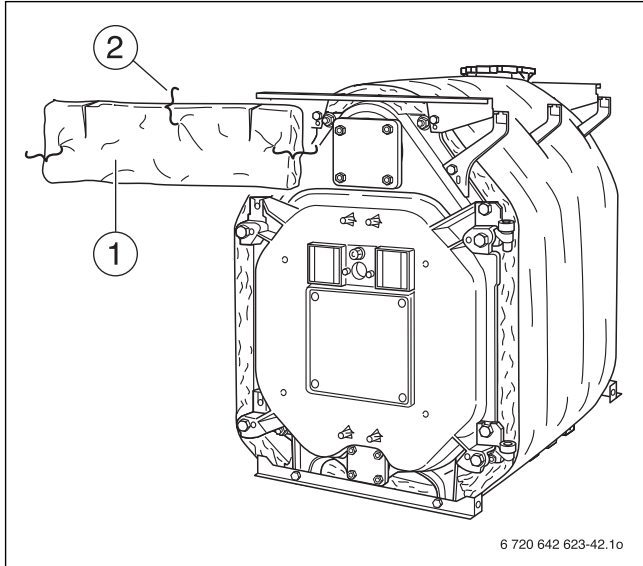

Fig. 44 Installing thermal insulation at the front
- ▶ Fit rectangular thermal insulation (→ Fig. 44, [1]) with the cut-outs facing upwards at the front above the door.
- ▶ Fasten thermal insulation to the block thermal insulation with the 3 spring hooks (→ Fig. 44, [2]).